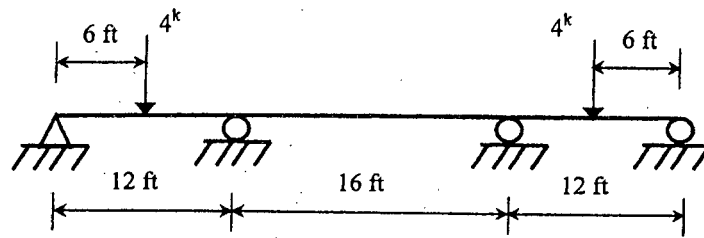

Fig. 2
2. (a) Analyze the beam shown in Fig. 2 using moment distribution method. Draw bending moment diagram. EI is constant. (15)